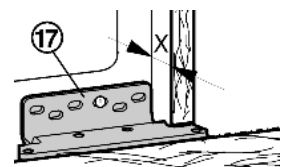

Fig. 30
- ▶ At the bottom of the turn hinge Fig. 30 (17), measure the distance (X) from the front edge of the unit side wall to the appliance.
- ▶ At the bottom of the turn hinge *Fig. 30 (17)* again measure the distance (X) from the front edge of the unit side wall to the appliance.